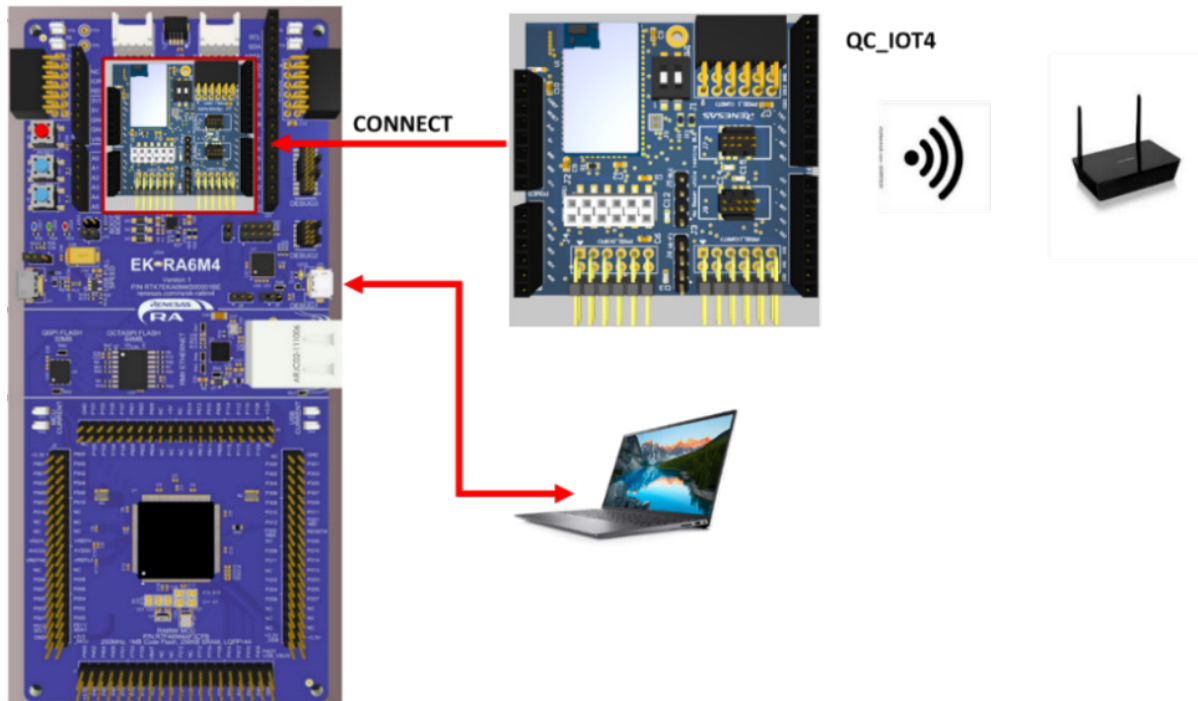

Figure 3. Evaluation Kit Connections with RA6M4 EVK
4. Connect the QC-IOT4 board to the MCU board (see Figure 3).
Use the following procedures to set up the kit connections with RA6M4 EVK as shown in Figure 3.
2. Connect the QCOT4-DA1660POCZ board with MCU as shown in Figure 3.
4. Connect the USB debug port of RA6M4 to the PC as shown in Figure 3.